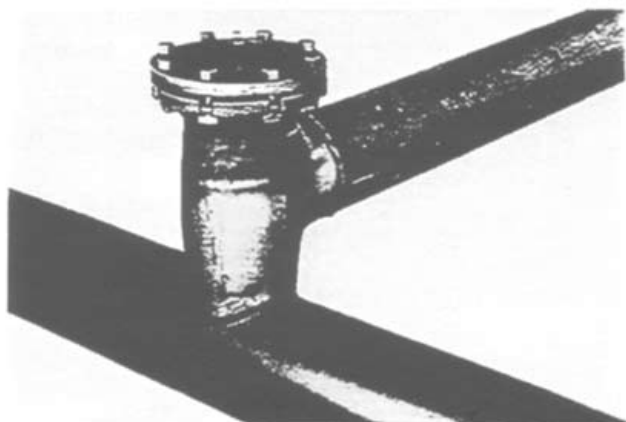

FIGURE 45
15. Bolt cap solidly to tee flange. **Figure 45.**